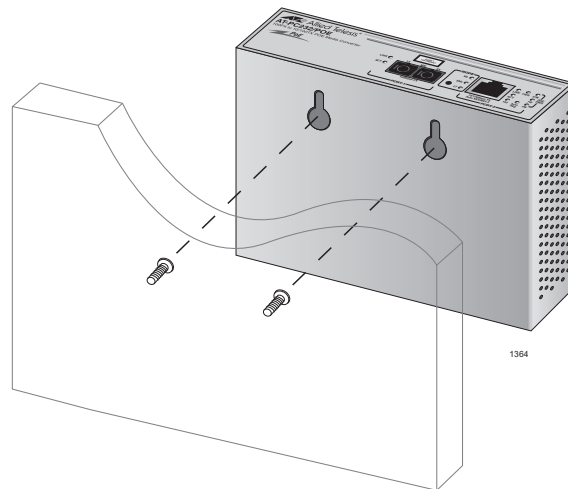

Figure 7. Positioning the Switch onto the Wall Screws
4. Position the switch onto the wall screws, as illustrated in Figure 7.